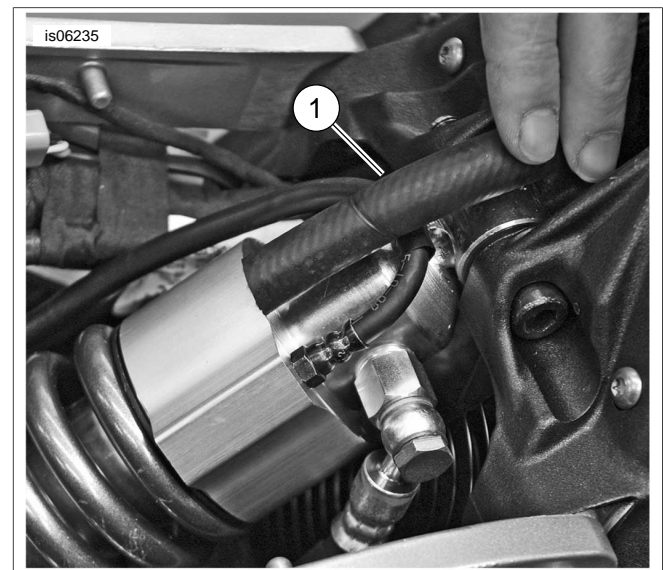

Figure 1. Trim Transmission Vent Hose
1. See Figure 1. Cut the transmission vent hose (1) even with the shock absorber collar.